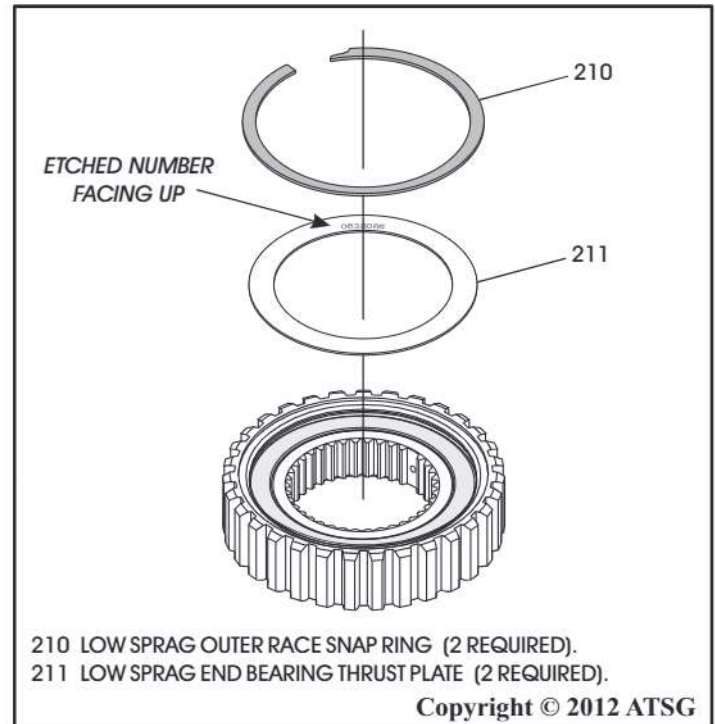

Figure 142
8. Install the second end bearing thrust plate and snap ring, as shown in Figure 142.
Note: If there is an etched number on thrust plate, install with number facing up, as shown in Figure 142.